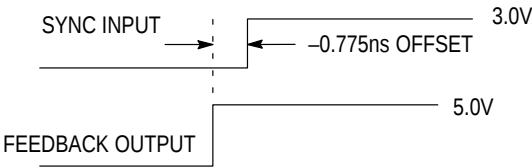

Figure 2. Depiction of the Fixed SYNC to Feedback Offset (t_{PD}) Which is Present When a 470KΩ Resistor is Tied to VCC or Ground
4. A 1 MΩ resistor tied to either Analog VCC or Analog GND as shown in Figure 2 is required to ensure no jitter is present on the MC88915 outputs. This technique causes a phase offset between the SYNC input and the output connected to the FEEDBACK input, measured at the input pins. The tPD spec describes how this offset varies with process, temperature, and voltage. The specs were arrived at by measuring the phase relationship for the 14